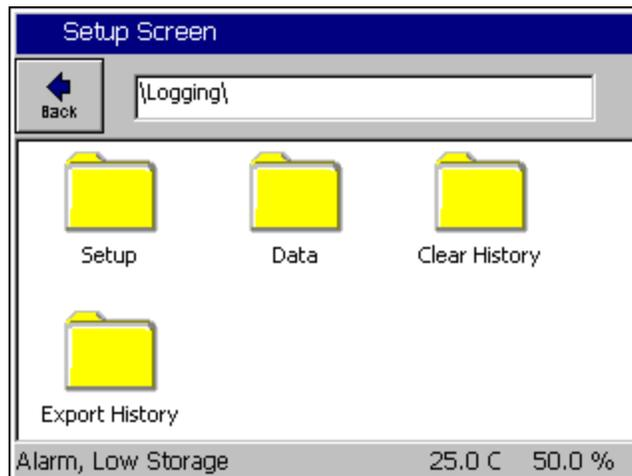

Figure 3
1. Go to the Setup screen and select the \Logging\Setup folder (See Figure 3). Select Log File Size and press the "Change" button.